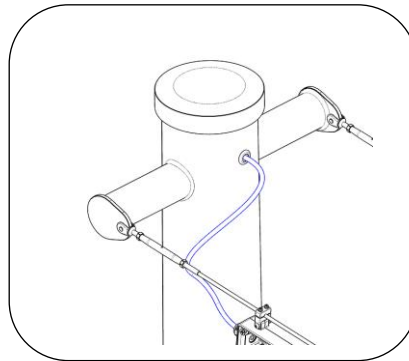

Fig. 16 Cord Routing
7. Route wire thru the grommet in the pole and down to the hand hole. Strain relieve the cord inside the top of the pole. See Fig. 16.